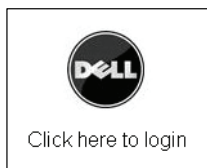

Figure 33. Start Button
- 2 Click the Dell logo start button to log in (see Figure 33).